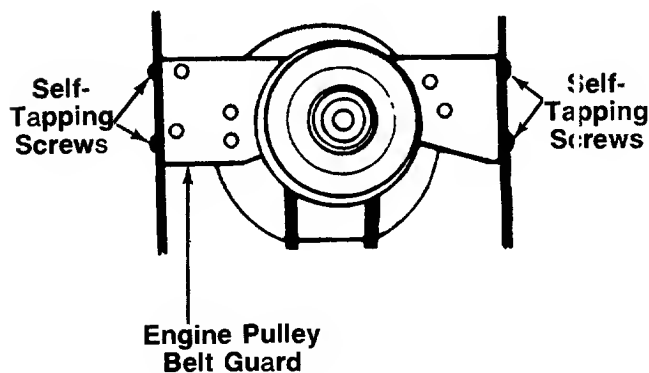

FIGURE 21.
5. Remove the two self-tapping screws on each side of the frame which hold the engine pulley belt guard to the frame. See figure 21. Remove the engine pulley belt guard by slipping it forward and down.